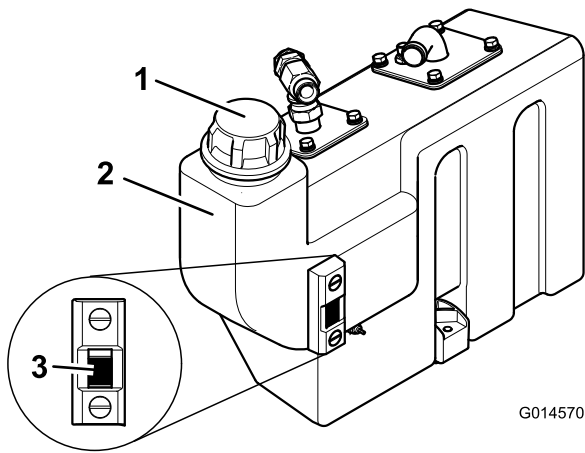

Figure 24
3. If hydraulic fluid is needed, clean area around the cap of hydraulic tank (Figure 24).